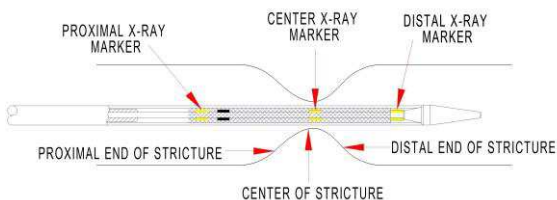

Figure 4
- When the center X-ray marker reaches the center of target stricture, continue pulling back on the Y-connector until the stent is fully deployed. (See figure 4, 5)
- When the center X-ray marker reaches the center of target stricture, continue forwarding toward the connector until the stent is fully deployed. (See figure 4, 6)